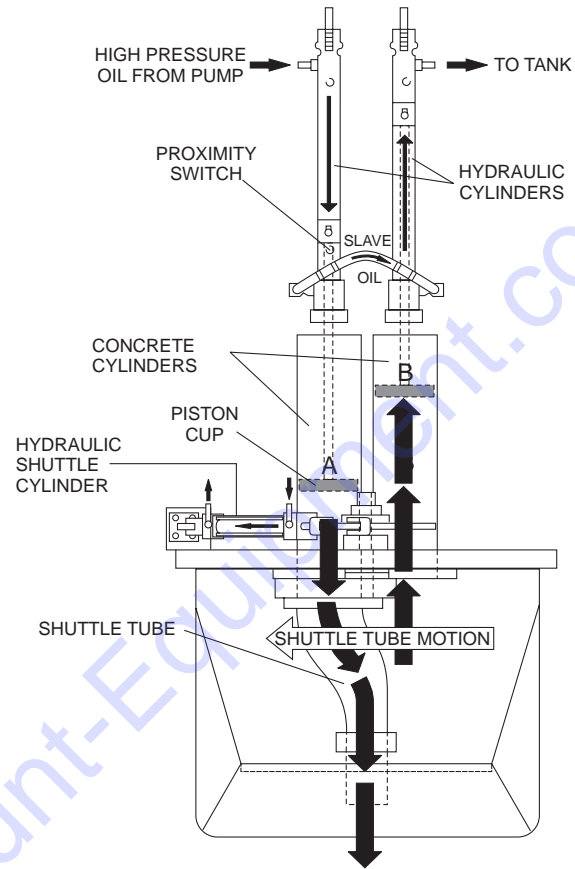

Figure 4. Pumping Cycle 2
As the second cycling sequence begins (Figure 4), the shuttle tube pivots to the opposite cylinder (A).